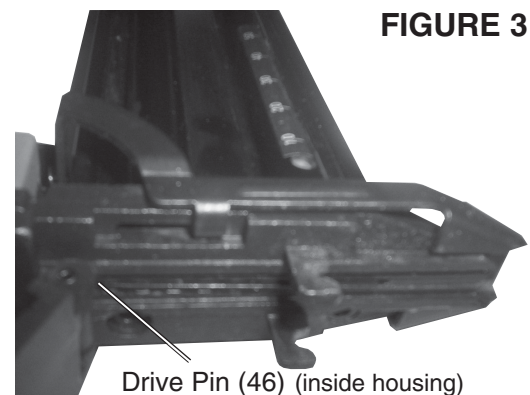

FIGURE 3
4. Inspect the **Drive Pin (46)** for bends or breakage - see location in *Figure 3*. If it is damaged, do not use the tool until it is repaired by a qualified technician.